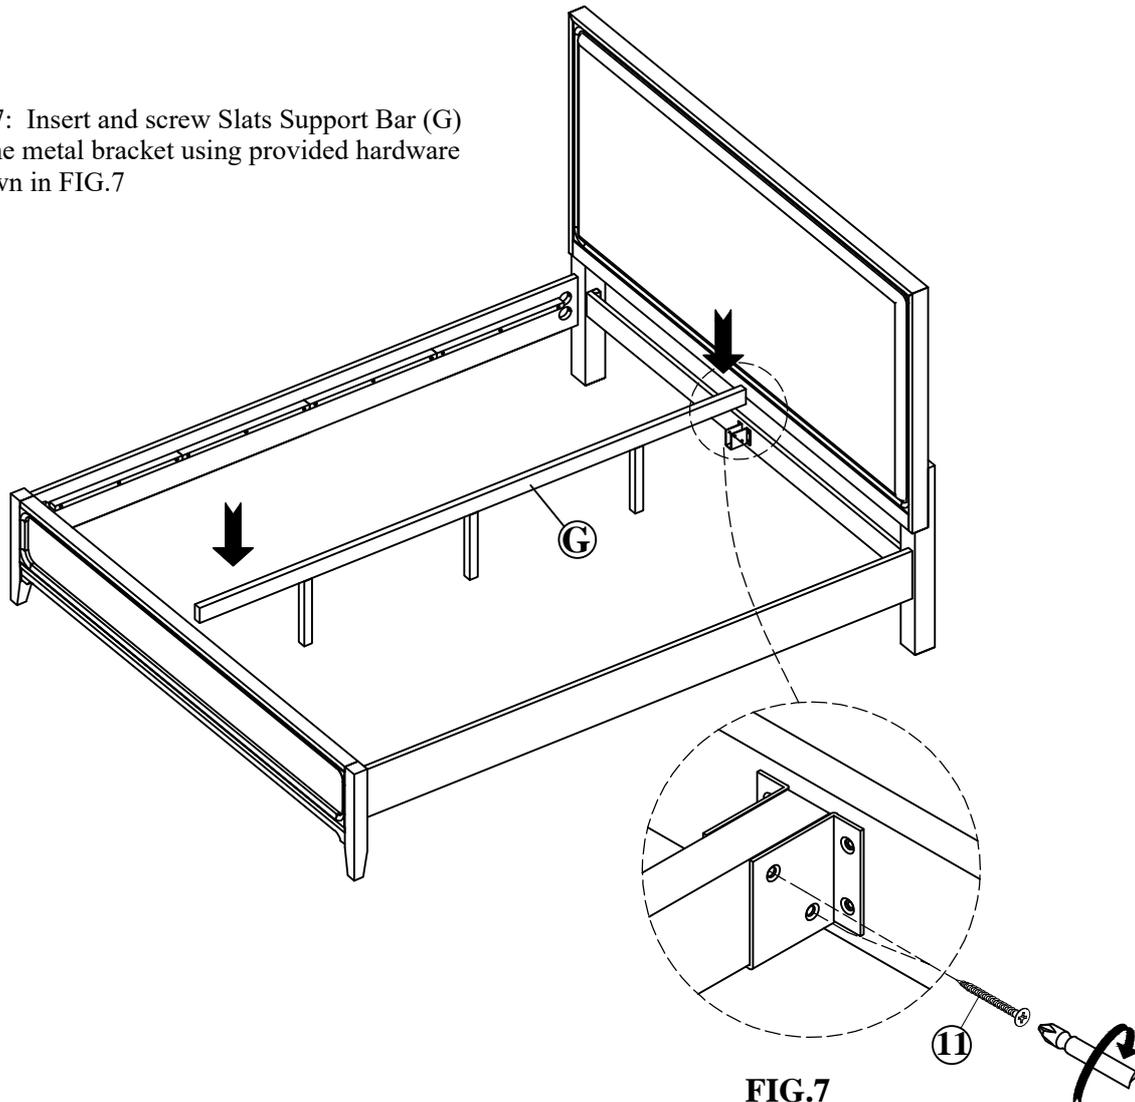

FIG.7
STEP 7: Insert and screw Slats Support Bar (G) to fit the metal bracket using provided hardware as shown in FIG.7